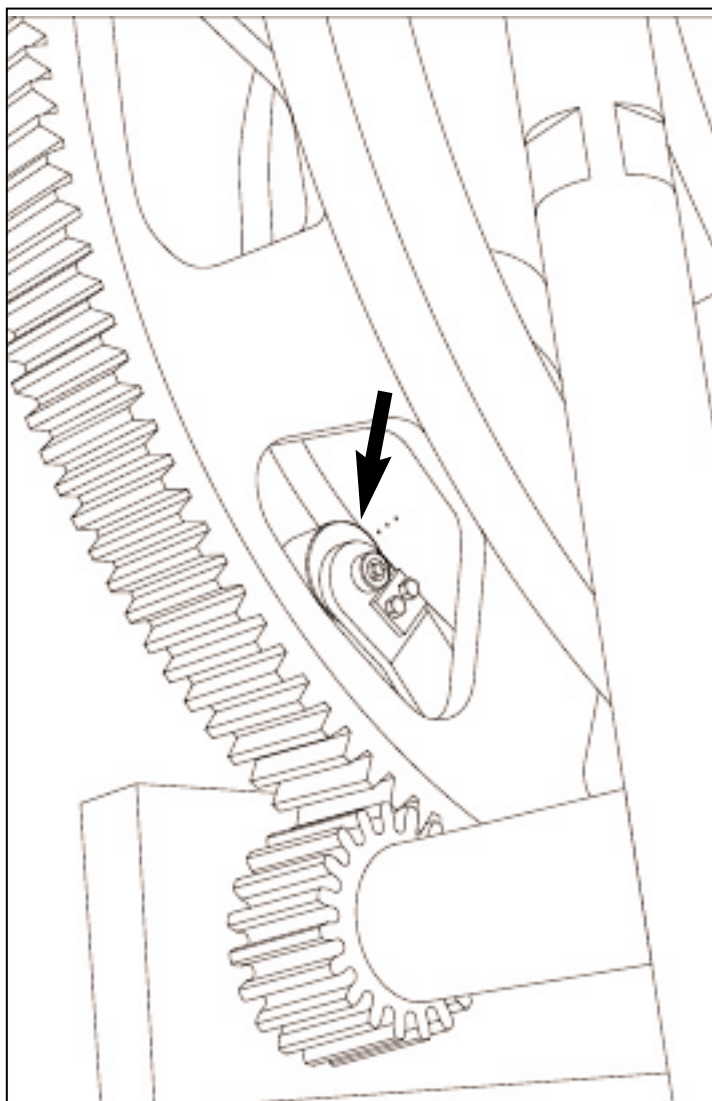

Figure 6.6 PALLET RAISING CAM.
- 6.2.1 Run machine to align punch marks on pallet raising cam (innermost cam on left side of machine) with center of roller that it contacts (see figure 6.6).